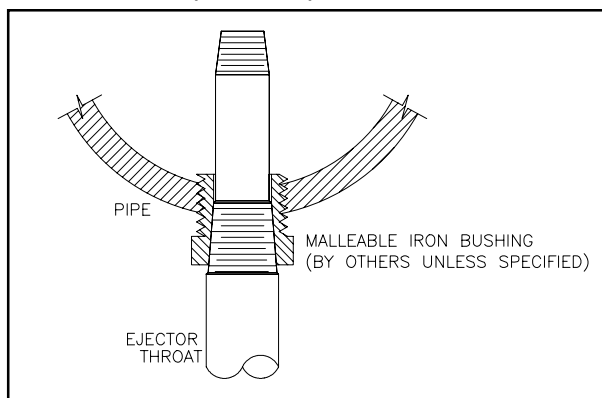

Figure 2 - Pipeline Mounting
Refer to Figure 2. The ejector should be mounted in a vertical position with the solution outlet at the top. **Do not mount the ejector with the solution outlet pointing down.** If horizontal mounting is required, position (or screw into the pipeline) so that the gas inlet connection is on a horizontal line with the water flow through the ejector. The solution outlet piping must be arranged so that the ejector remains full at all times. (A minimum head/back pressure of 4" W.C. must be maintained.) After locating and mounting the ejector loosen the overflow chamber coupling nut and rotate the overflow chamber so that the arrow is pointing up. Hand tighten the nut to secure the chamber in position.
2.2.4.3 If a solution line is required, connect a flexible hose (sufficient in length to extend to the point of application) to the ejector outlet. Line size to be 1", 1-1/2" or 2" ID hose, as specified by the supplier. Depending on hose size, either connect the hose directly to the hose connection of the ejector or install the hose adaptor (as required and furnished) on the ejector outlet. Secure the hose connection using a hose clamp. See Figure 2 and 3 for additional piping information.